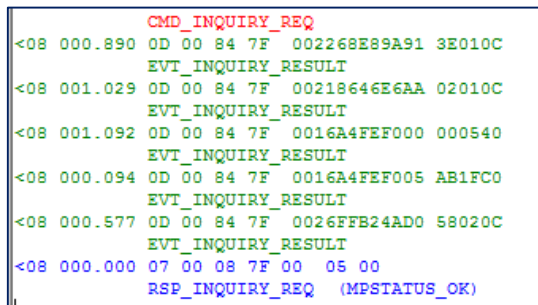

Figure 6: CMD_INQUIRY_REQ
2. Leave the default values and click **Tx**. The command completes after eight seconds or when five devices are discovered. Discovered devices are sent by the module followed by an MPSTATUS_OK when the command completes and is ready to receive more commands (Figure 6).